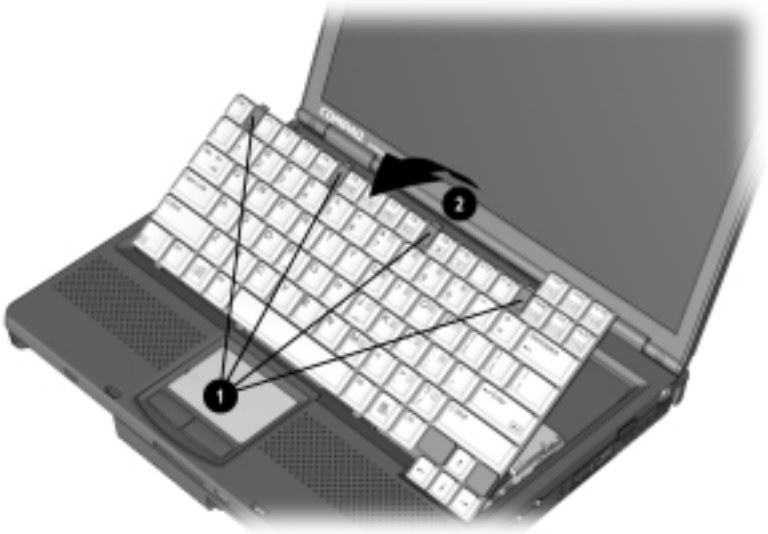

Figure 5-8. Releasing the Keyboard
6. Slide the four latches ❶ located along the top of the keyboard forward.
7. Swing the back edge of the keyboard ❷ up and forward (Figure 5-8).